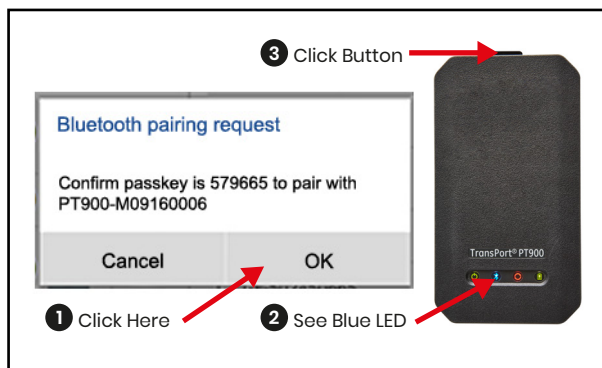

Figure 65: Confirm the Pairing
8. During the pairing process, PT900 security features require the user to confirm the pairing (see Figure 65 below). When the Bluetooth pairing request appears on the tablet (ignore the random passkey), click OK to continue. Then, confirm that the blue LED on the transmitter is flashing and click the transmitter power button.